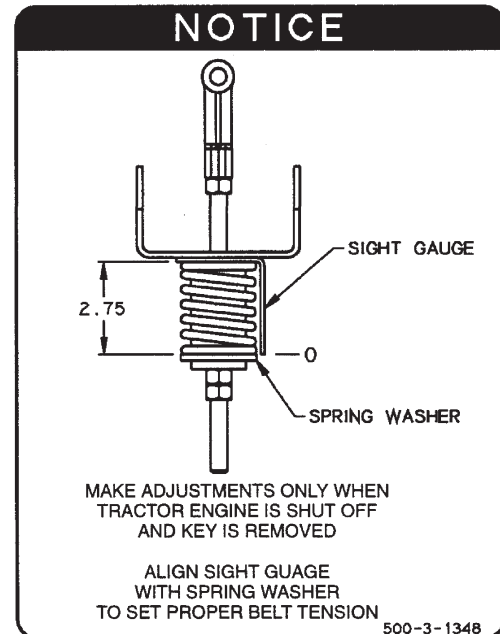

Figure 33. Belt Tension Gauge
5. Align sight gauge with spring washer as shown in Figure 33 to set proper belt tension. Do not over-tighten.